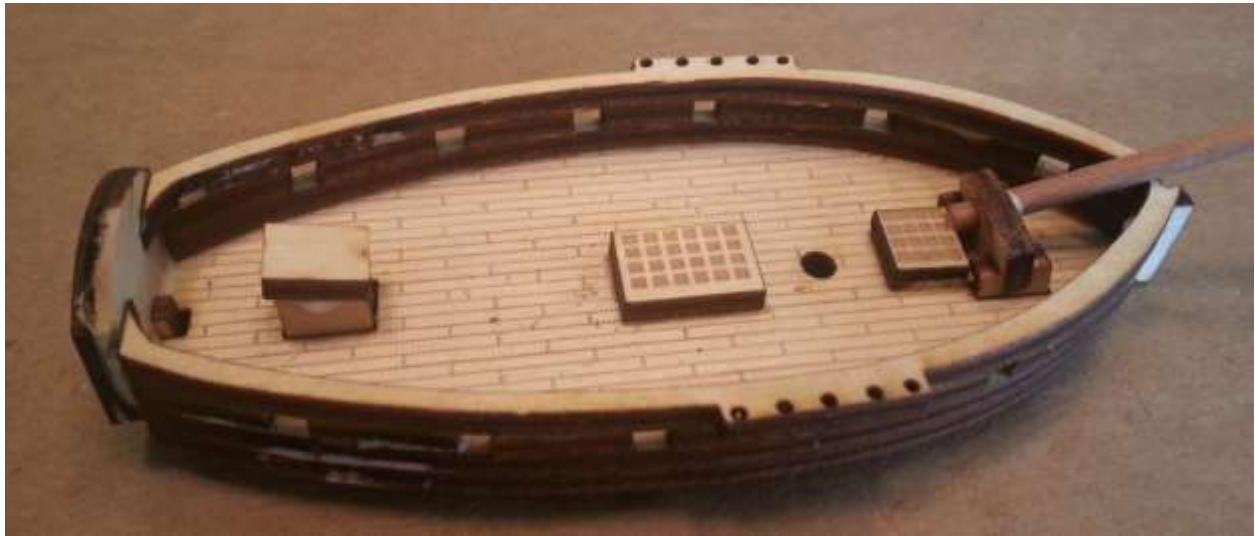

Figure 5
2.5" dowel into the hole in (part 14). This will case the assembly to lean backwards slightly as shown in figure 5 below.